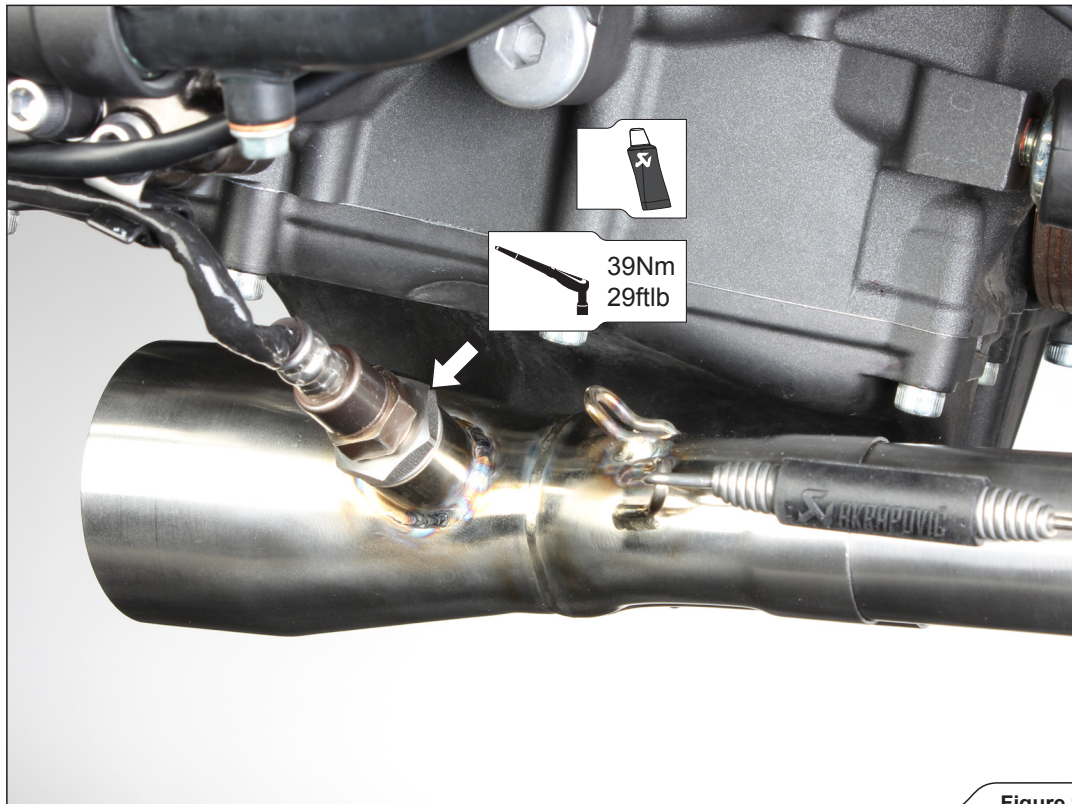

Figure 9
- ! **IMPORTANT:** make sure not to damage the lambda sensor's electrical lead during this process (Figure 9)!